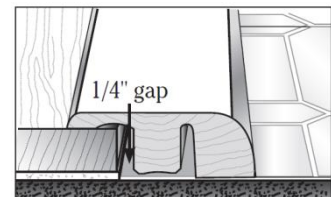

Fig. 26
3. Install the Laminate floor up to the Track System using Armstrong Spacers to obtain a 1/4" (6.35 mm) expansion zone (**Fig. 26**).